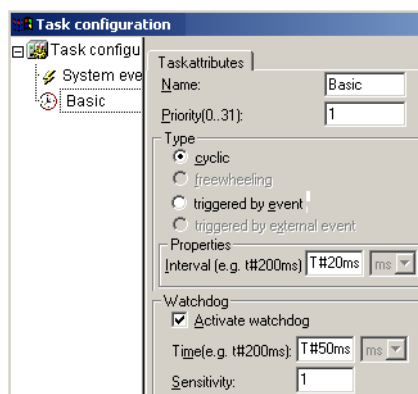

Figure 30:Parameterization of the cyclic task
- ▶ Set the task in the dialog as in Figure 30.